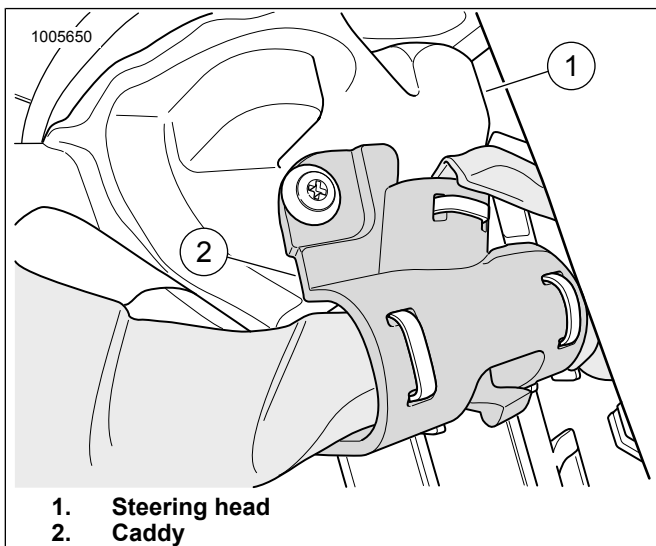

Figure 13. Steering Head
17. See Figure 13. Route end of 48-in. harness to steering head (1). Use caddy (2) to secure harness.